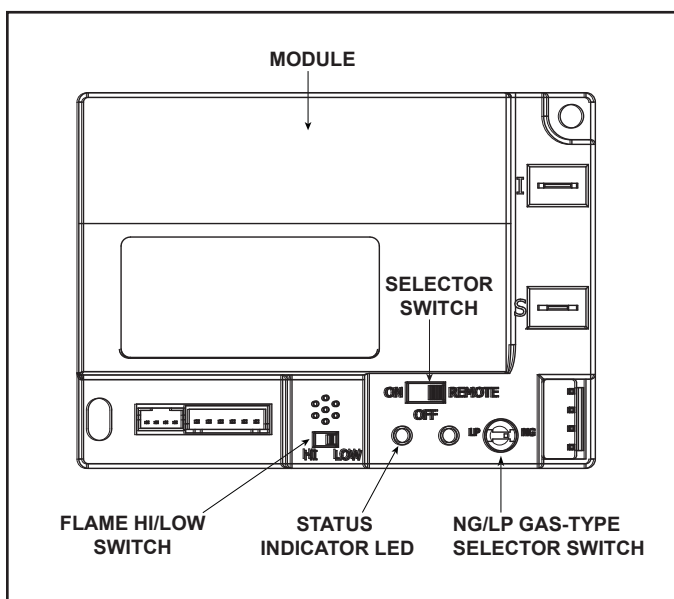

Figure 2. Control Module
The control module has an ON, OFF, and REMOTE selector switch that must be set prior to fireplace operation. See Figure 2.
- To adjust the flame height with a optional remote control (RC200 or RC300) the FLAME HI/LOW switch must be in the HI setting. IF the FLAME HI/LOW is in the LOW setting, the optional remote (RC200 or RC300) will no longer adjust the flame height. See Figure 2.
- Locate the module SELECTOR SWITCH. See Figure 2.
- Wait five (5) minutes to allow for any potential accumulated gas to clear.